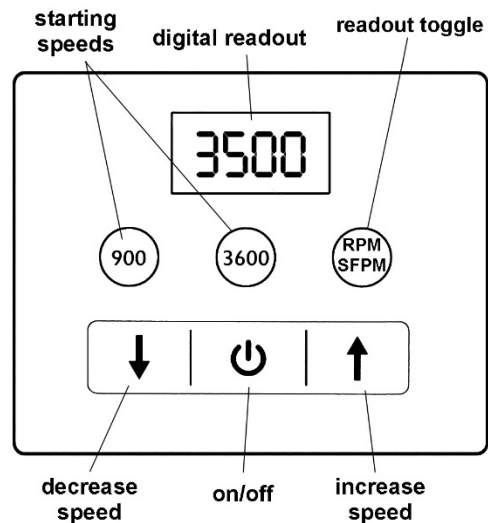

Figure 9-2: keypad (VS models only)
**IBGB-248VS, IBGB-436VS:** Press on/off button on keypad (Figure 9-2) to start or stop. Press either of the numbered buttons to start machine at the designated speed. Press arrow buttons to change rotation speed in 100 RPM increments.